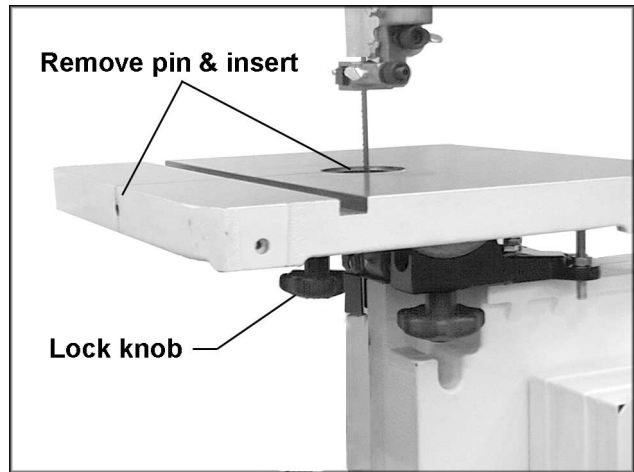

Fig. 13
13. To mount the table, remove pin and insert from the table (Fig. 13).
14. Rotate the table so that the saw blade will slide through the slot in the table. Then orient the table so the screws will slide into the holes on the trunnion support bracket. Attach lock knobs to these screws (Fig. 13).